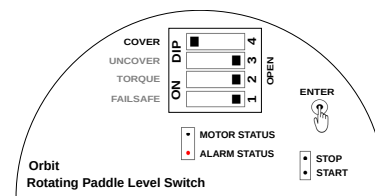

Figure 12: Setting Cover Delay
- Press and hold ENTER key as shown in Figure 12. The ALARM STATUS LED starts blinking. Blink the LED according to value of cover delay.